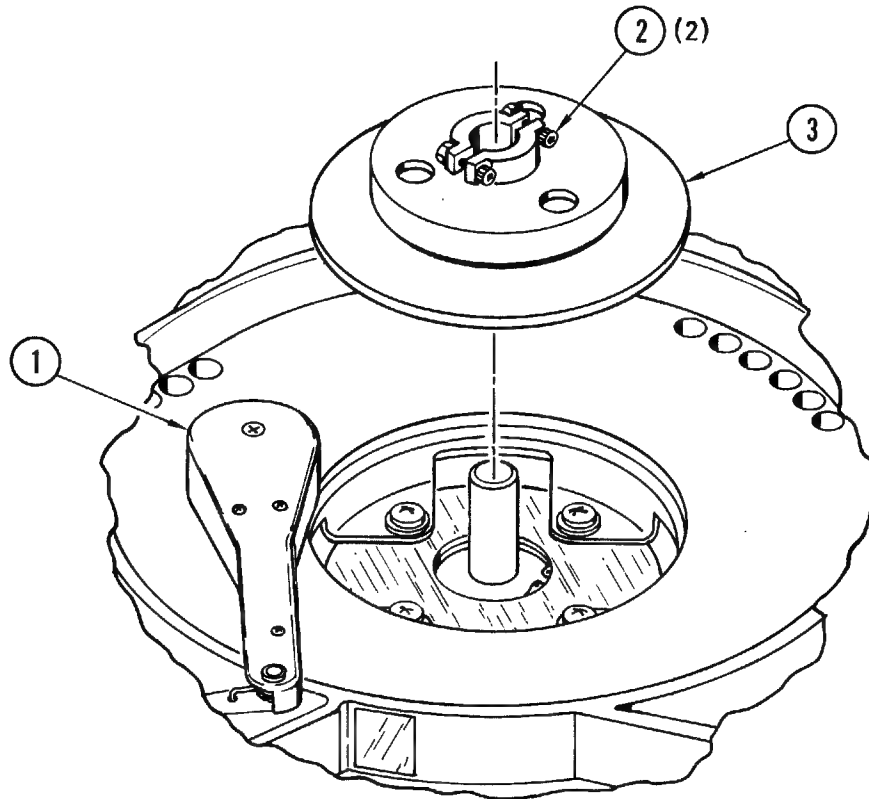

Figure 4-15. Takeup Hub
4-29. **Removal, Replacement, and Adjustment (Figure 4-15).** Place the transport in operator maintenance access position (paragraph 4-2) and proceed as follows:
- a. Secure tachometer assembly (1) away from the takeup hub.
- b. Loosen socket-head screws (2, Figure 4-15) and remove hub (3).